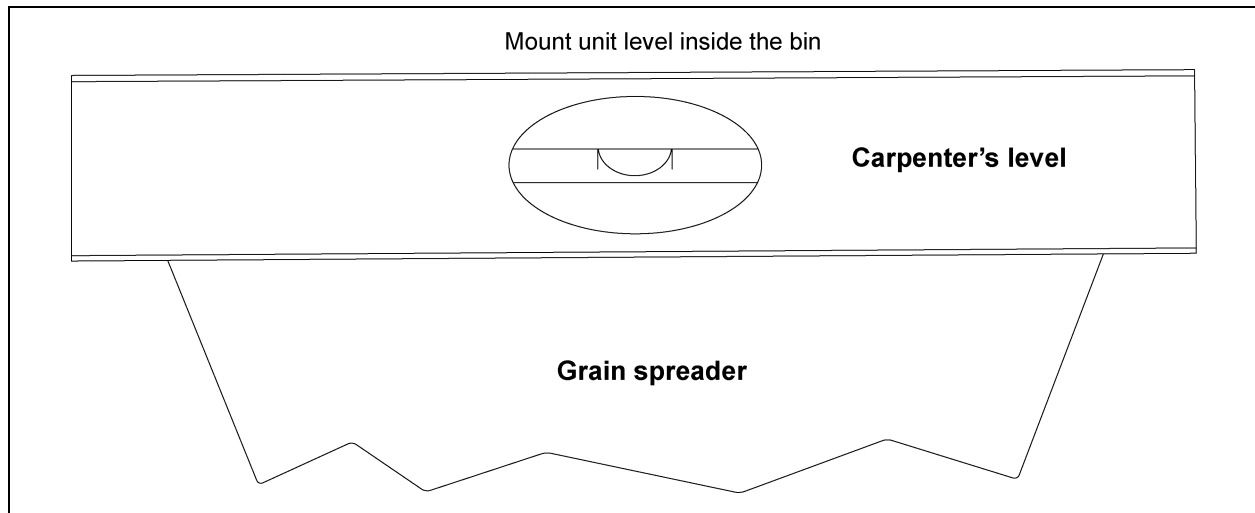

Figure 4A *Mount Spreader and Check with Level*
4. Once unit is installed, use a carpenter's level across the top of the spreader cone to confirm it is level in all directions. *(See Figure 4A.)*